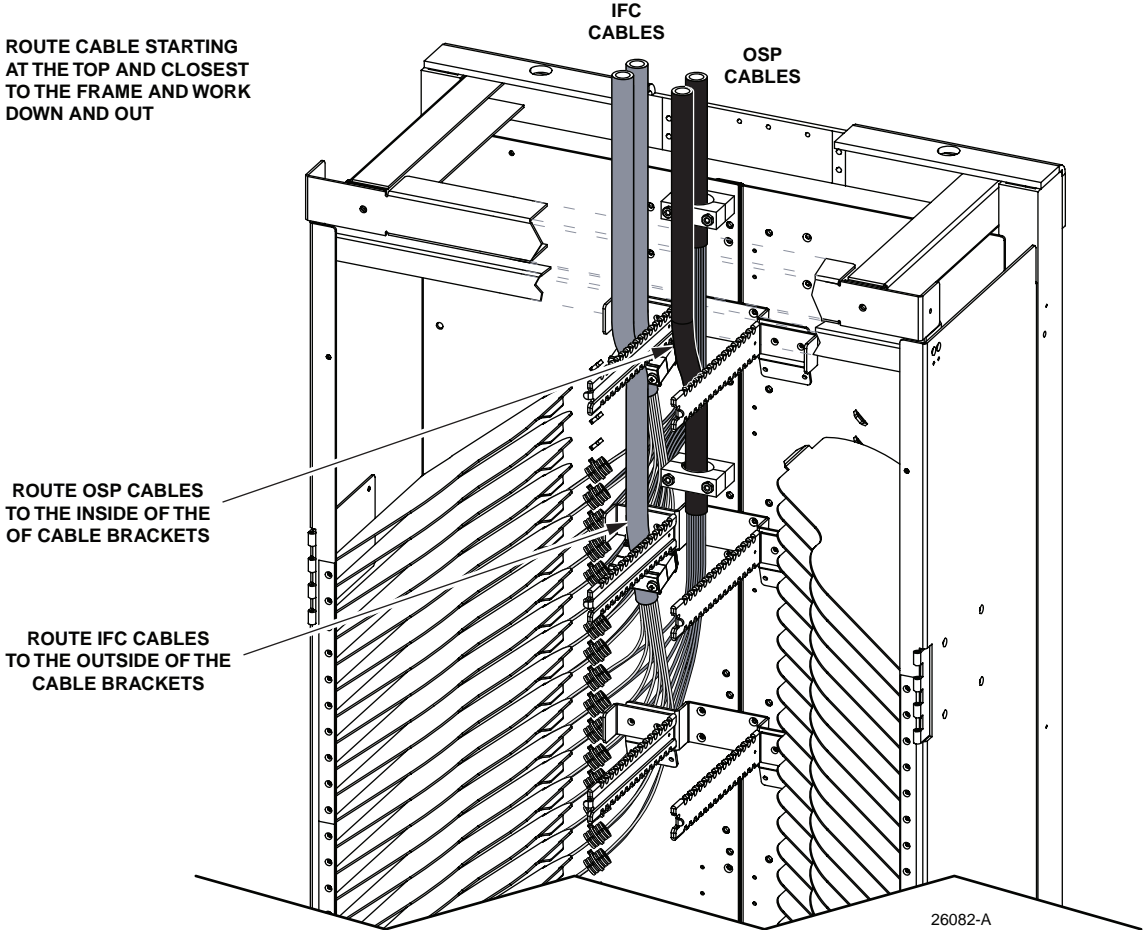

Figure 29. OSP and IFC Cable Routing Method (96-Fiber IFC, Overhead Cable Environment)
4. Continue routing OSP and IFC cables as shown in Figure 29.